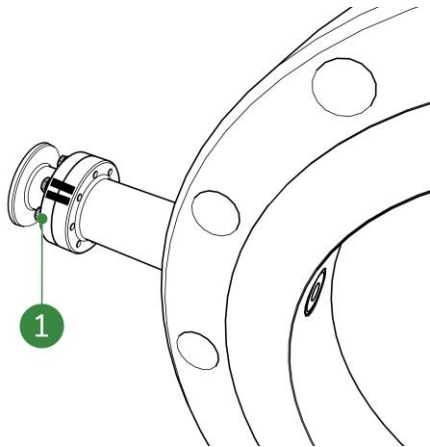

Figure 8-15: M5 bolts and washers
7. Remove the bolts and washers (Figure 8-15, pos. 1).